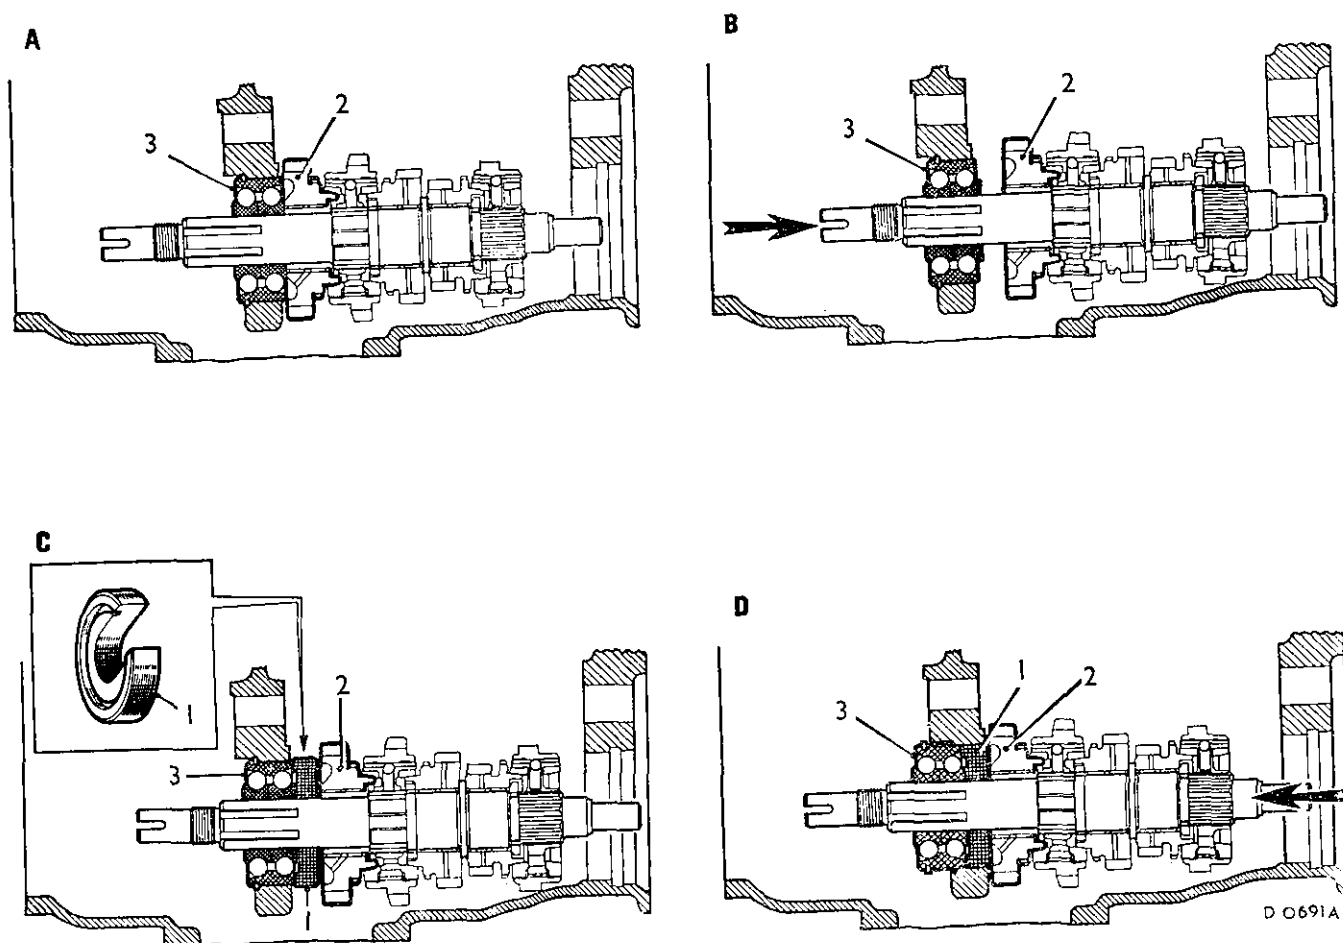

Fig. F.2
- (18) Refer to Fig. F.2. Drift the third motion shaft backwards, as indicated by the arrow in (B), until a special Service tool (1) can be placed between the first speed gear (2) and the bearing (3), as illustrated in (C). On three-speed synchromesh gearboxes use 18G 613, and on four-speed units 18G 1127 with their relieved side towards the bearing. These two tools must not be interchanged, or the bearing or casing will be damaged. Drift the third motion shaft forward as illustrated in (D), to push the bearing (3) from the web, taking care not to damage the selector forks. Pull the bearing from the shaft, and lift the shaft from the casing.
(19) Remove the strainer assembly.
(20) Withdraw the reverse shaft, gear and selector fork.